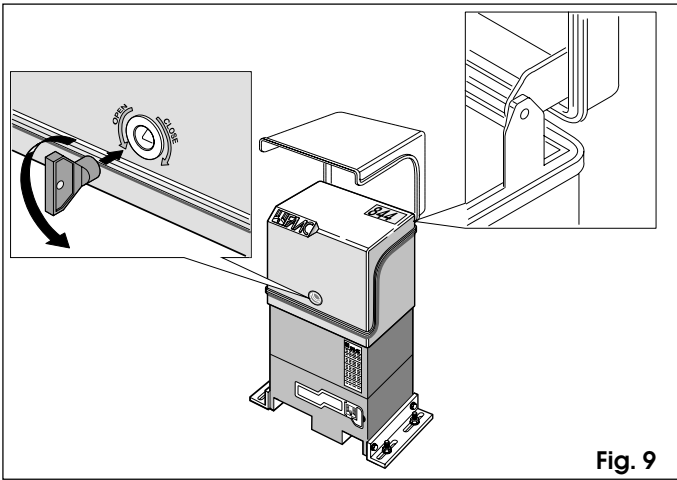

Fig. 9
- 2) Open the operator cover using the supplied triangular cavity key as in Fig.9.